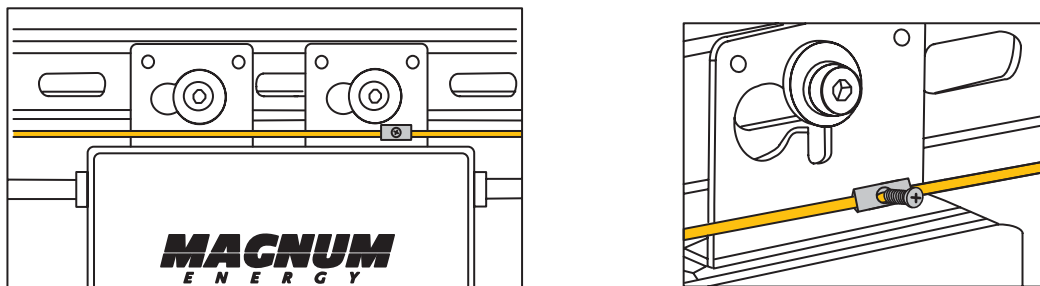

Figure 7, Grounding the System using the Grounding Clamp
1. Connect the grounding electrode conductor to the MicroGT 500 inverter ground clamp (Figure 7).